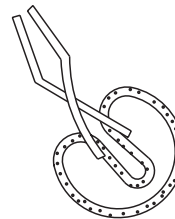

Fig. 3
- (4) When using a jig for fitting seal rings, use a jig with round edges to avoid damaging the seal rings. (Fig. 3)